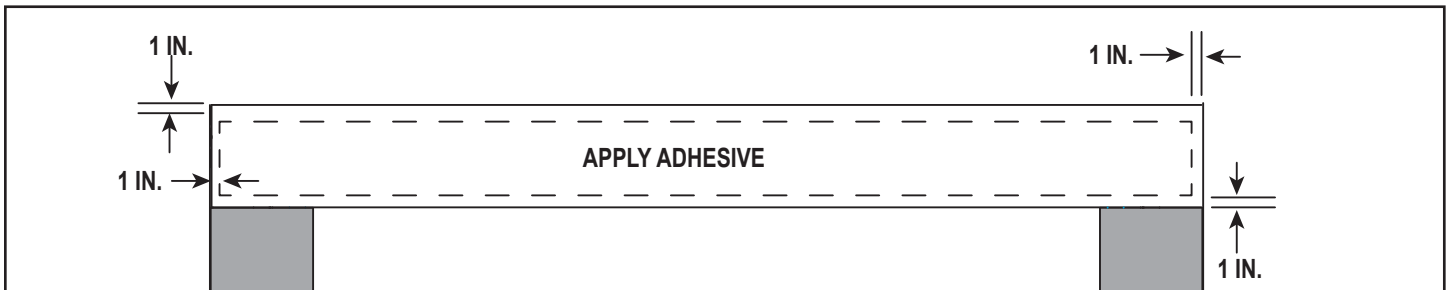

Figure 12. Apply Adhesive For Top and Bottom Granite
- Apply a generous amount of adhesive to the back side of the bottom granite piece. The same method will be used for top and bottom pieces. See Figure 12 for appropriate zone to apply adhesive. DO NOT apply adhesive too close to the edges. Leave 1 in. around edges. Avoid leakage of adhesive around edges by not applying it too close to the edge of the granite. Place the bottom piece and hold with braces and clamps to support granite.
- Apply a generous amount of adhesive to the back side of the top granite piece. See Figure 12. The granite material is heavy and will need to be adequately secured to the wall.